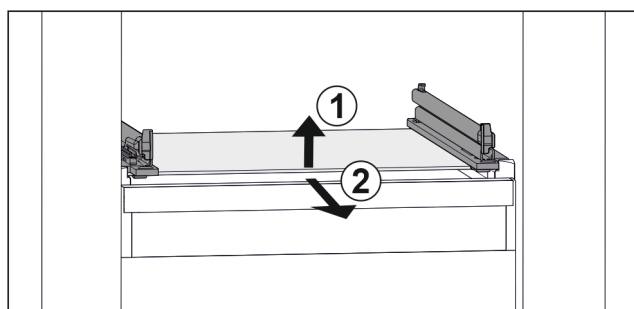

Fig. 153 Example illustration of glass shelf
- Lift glass shelf at the front. Fig. 153 (1)
- Remove glass shelf to the front. Fig. 153 (2)